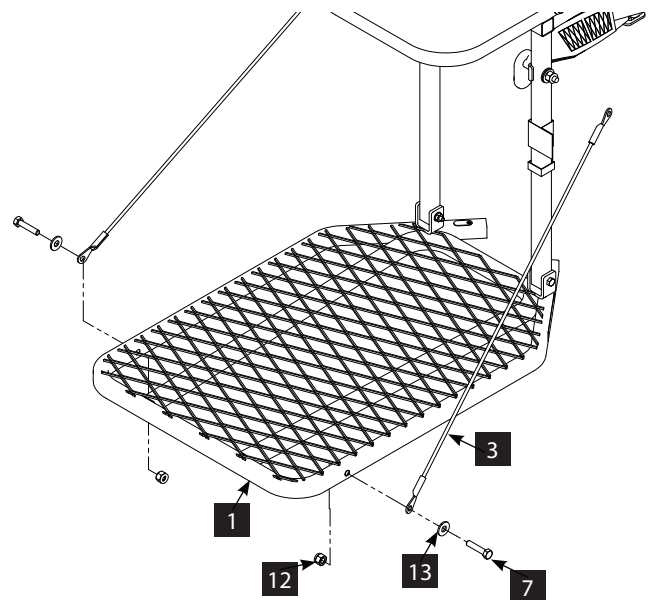

FIGURE 2
2. Attach the removable seat pad (5) to the metal seat frame (2) by sliding seat frame into pocket. Wrap the seat's hook and loop attachment straps or buckle straps around seat frame and secure together. Snap the side release buckle together for buckle style seats. Pull straps tight so seat is not loose.
3. Attach cables (3) onto the platform (1) using two 5/16-18 X 1-1/2 IN bolts (7), two 5/16 IN washers and two 5/16-18 locknuts (12). **SEE FIGURE 2.**